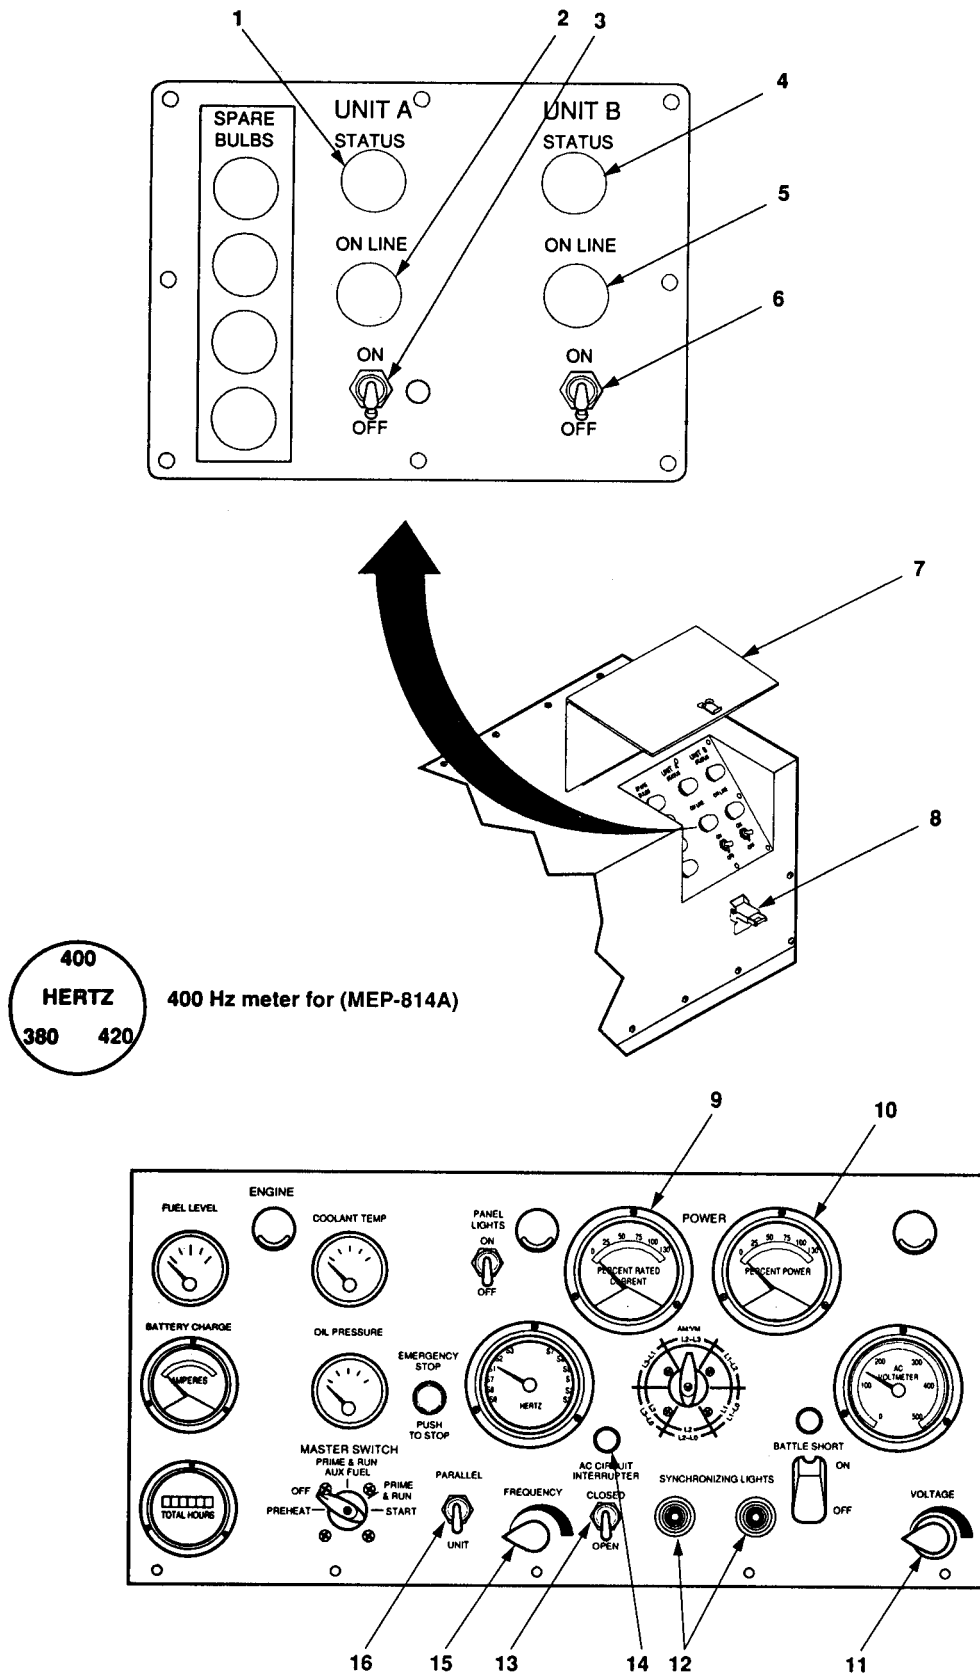

Figure 2-11. Load Transfer Operation.
- c. On operating generator set (set 1), set UNIT-PARALLEL switch (16, figure 2-11) to PARALLEL.
- (1) At the control panel of the generator set that is to be taken off line (generator set 1), set the AC CIRCUIT INTERRUPTER switch to the OPEN position. Set UNIT-PARALLEL switch to UNIT, MASTER SWITCH to OFF.
- (2) At the control panel of the running generator set (generator set 2), place the UNIT-PARALLEL switch to UNIT. The load has now been transferred.
- a. Set the switch box ON/OFF switch (3 or 6, figure 2-11) for the generator set to be stopped to OFF position.